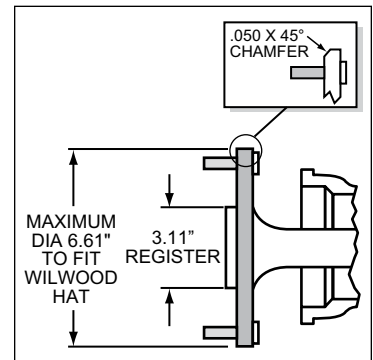

Figure 3. Axle Flange Maximum Dimension
- Axle center register diameter is 3.11", Figure 3.
- Maximum axle flange diameter must be no larger than 6.61" w/.050" x 45° chamfer, Figure 3.